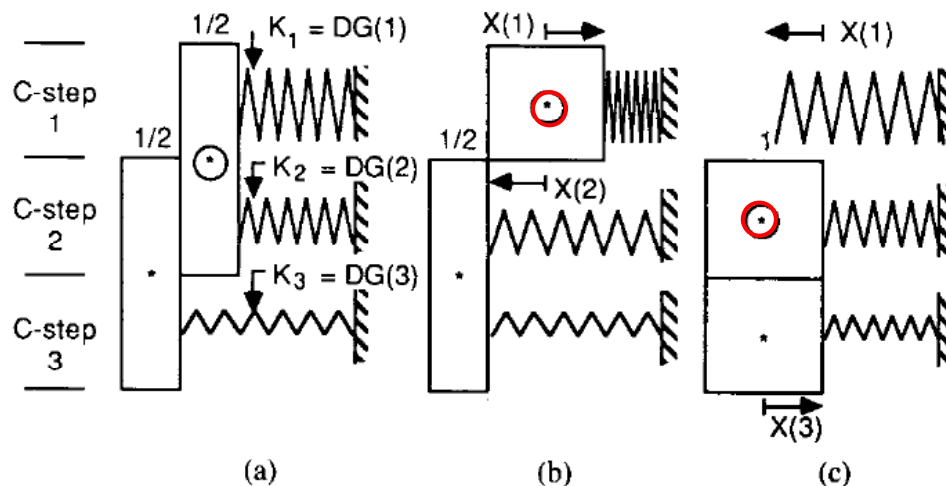

Fig. 8. Time frame modifications for force calculations.
- We will attempt to schedule the circled multiply operation in c-step 1 as depicted in Fig. 8(b)